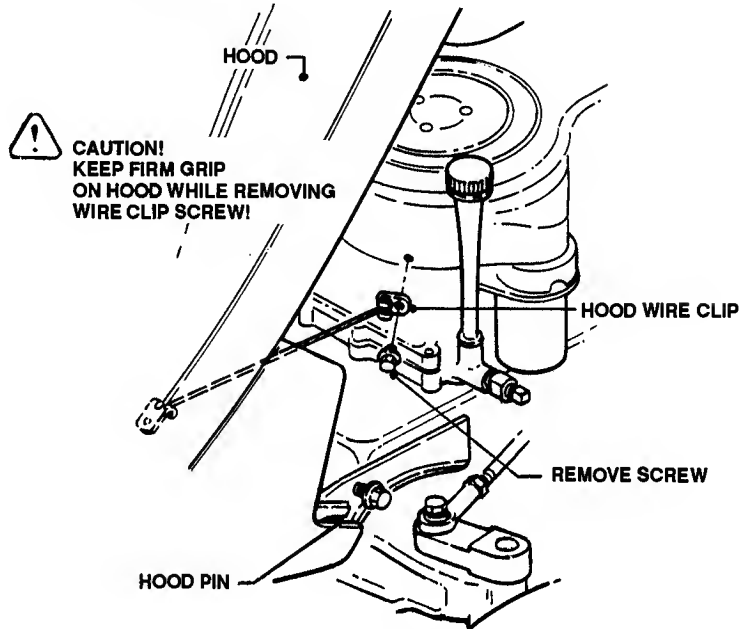

FIGURE 38
2. Remove hood cable clip from engine. See Figure 38.